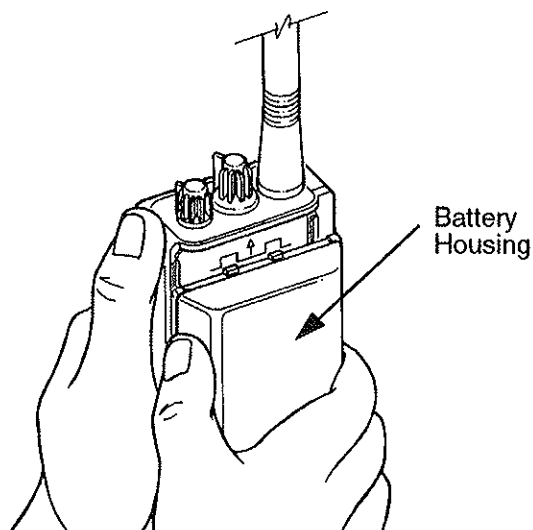

Figure 1-2. Slide Battery Housing
2. Press the battery housing against the radio, while sliding it down until it is free of the chassis rails (Figure 1-2).